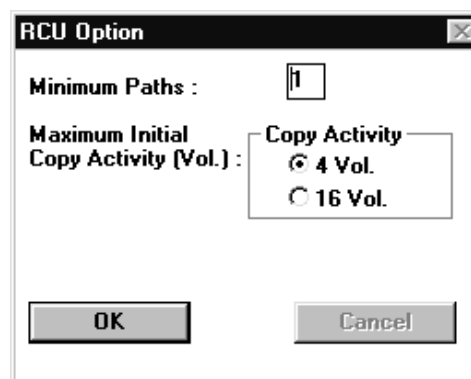

Figure 3.13 Configuring the RCU Options
8. Repeat step (7) for each CU image of the MCU. After adding all RCUs to each MCU CU image, verify the RCU options, and select **OK** to close the RCU Option panel (see Figure 3.13) (see section 4.3.2 for instructions).
Figures 3.13 through 3.16 show the various HORC/ShadowImage (HOMRCF) configurations which share volumes. HORC supports synchronous and asynchronous operations for shared HORC/HOMRCF volumes.